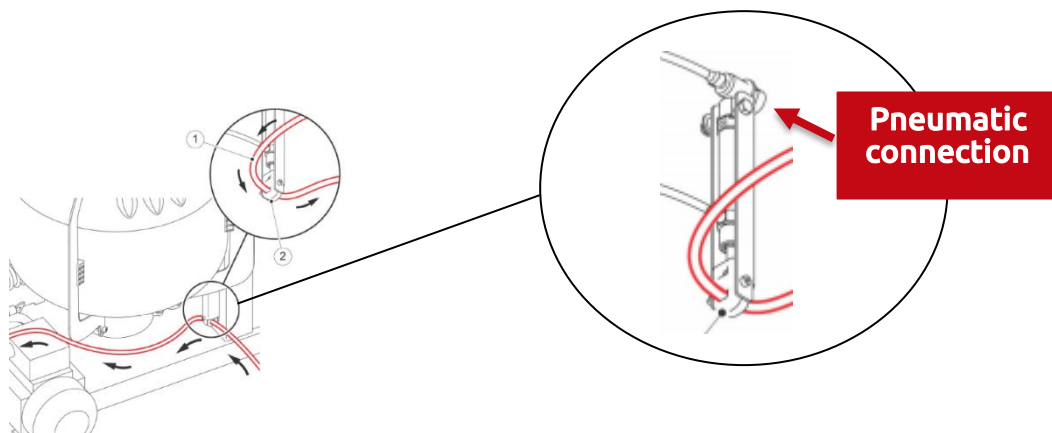

Figure 36. For Astronaut A3Next
- Connection for Astronaut A3Next and A4, see figure 36